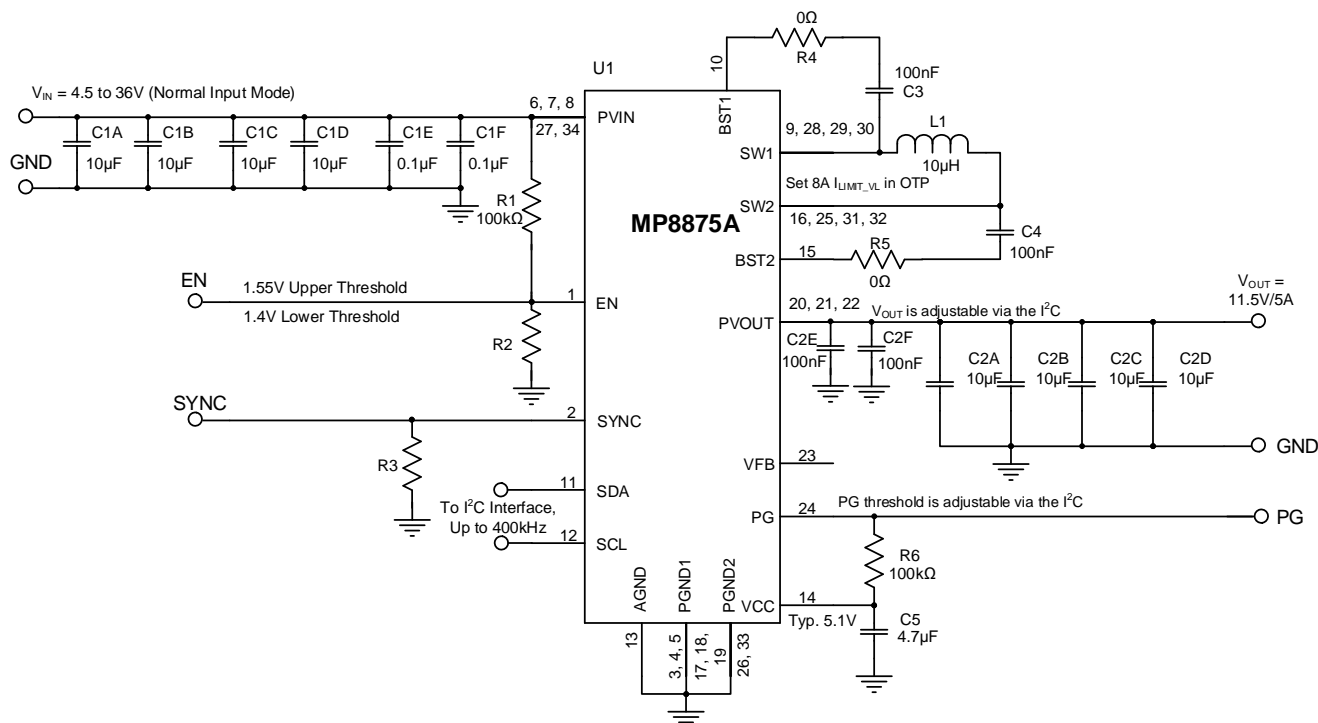

Figure 32: $V_{OUT} = 11.5V$, $f_{sw} = 450kHz$
- 12) The recommended PCB layout is based on the typical application circuit (see Figure 32 on page 63).